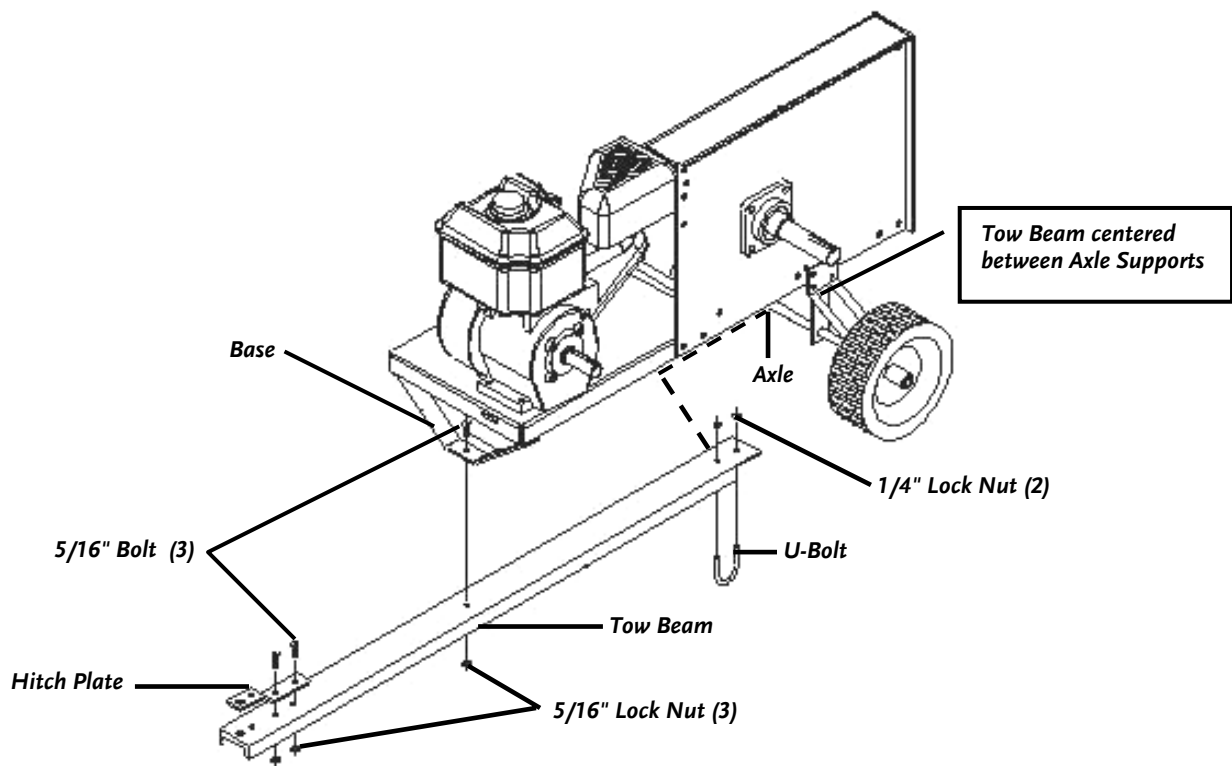

Figure 2
1. Attach the Tow Beam to the center of the Axle between the Axle Supports by putting the U-Bolt around the Axle from underneath and up through the two holes on the Tow Beam (**Figure 2**). Install two (2) 1/4"-20 Lock Nuts on the U-Bolt but do not tighten at this time.
2. Lift the machine and attach the center of the Tow Beam to the front of the Base by inserting a 5/16"-18 x 1" Bolt down through the Base and through the Tow Beam (**Figure 2**). Install a 5/16"-18 Lock Nut but do not tighten.
3. Rest the Tow Beam on a stand up off the ground, re-check the center of the Tow Beam on the Axle and tighten the two (2) 1/4"-20 Lock Nuts on the U-Bolt.
5. Attach the Hitch Plate to the Tow Beam with two (2) 5/16"-18 x 1" Bolts and two (2) 5/16"-18 Lock Nuts (**Figure 2**). Tighten the Nuts securely.